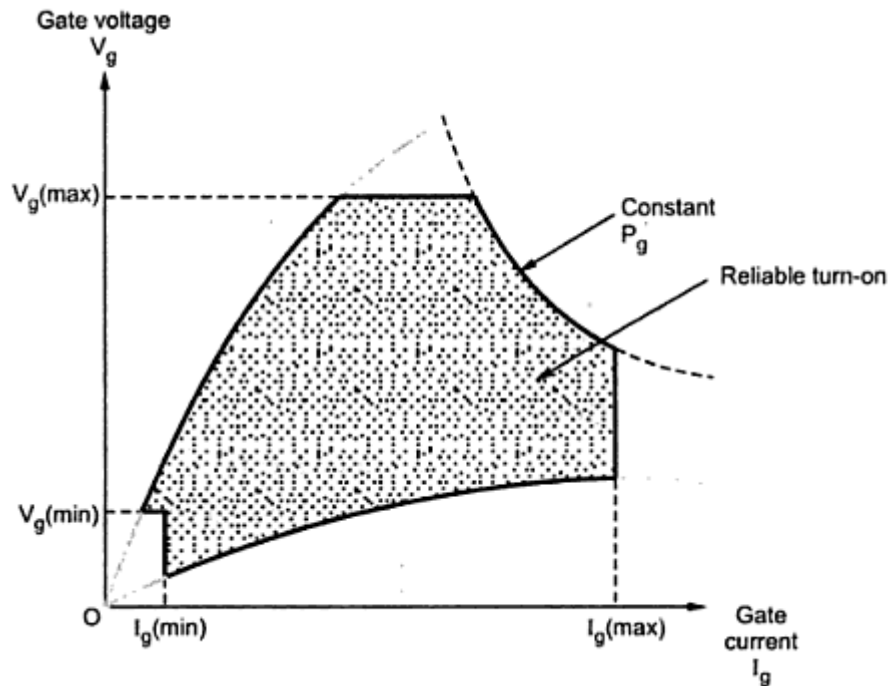

Fig 3.6 Gate Characteristics
Fig. 3.6 shows the gate trigger characteristics.
The characteristic of Fig. 3.6 also shows the curve for constant gate power (P_g). Thus for reliable turn-on, the (V_g, I_g) point must lie in the shaded area in Fig. 3.6. It turns-on thyristor successfully. Note that any spurious voltage/current spikes at the gate must be less than $V_{g(\min)}$ and $I_{g(\min)}$ to avoid false triggering of the thyristor. The gate characteristics shown in Fig. 3.6 are for DC values of gate voltage and current.
- ii) The gate voltage and current should be within the limits specified by gate characteristics (Fig. 3.6) for successful turn-on.